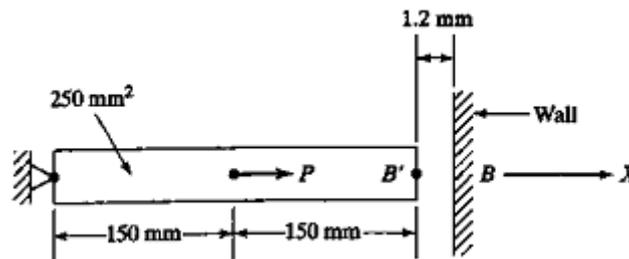

Figure.1
2. a) In the figure.1 shown, a load  $P = 60 \times 10^3 \text{ N}$  is applied. Determine the displacement field, stress and support reactions in the body. Take  $E = 20 \times 10^3 \text{ N/mm}^2$ . [8]